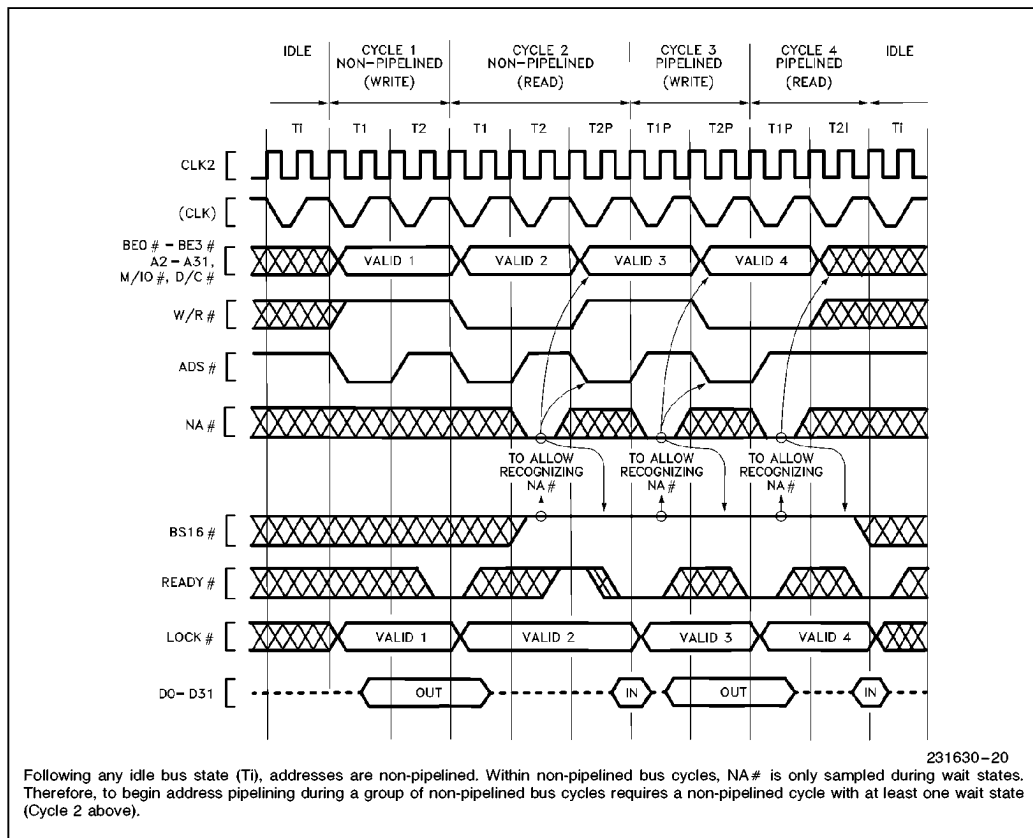
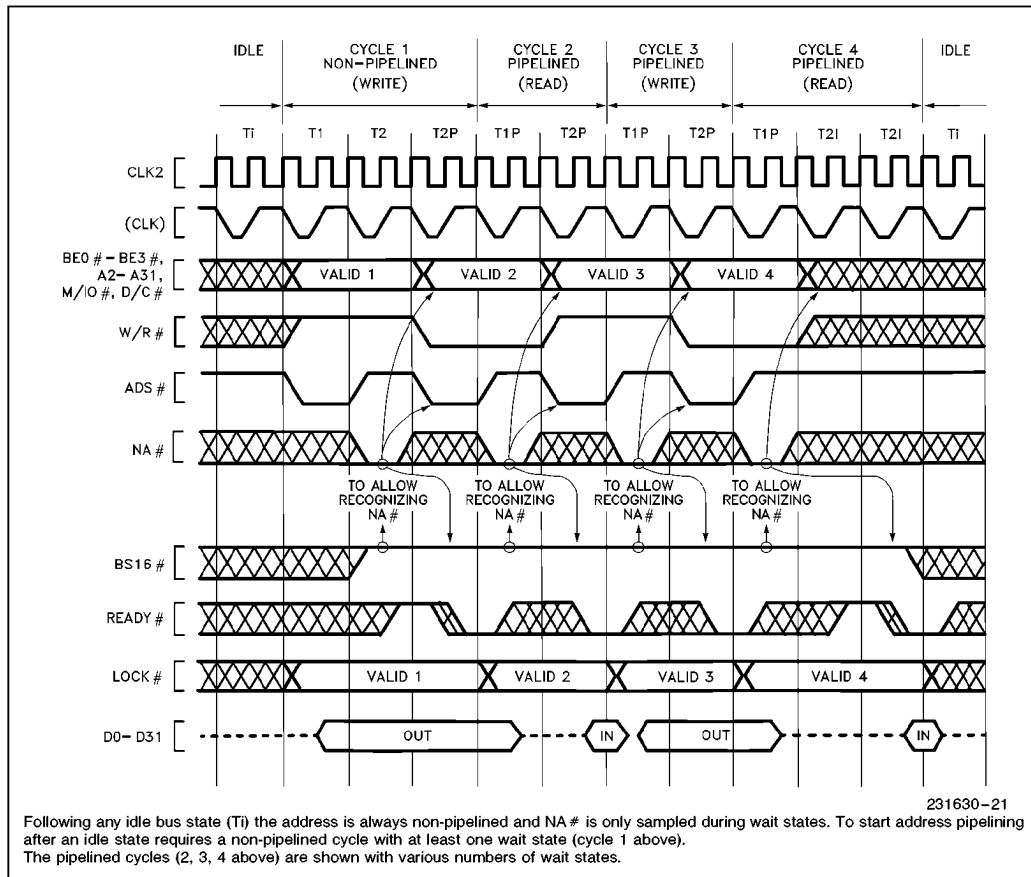
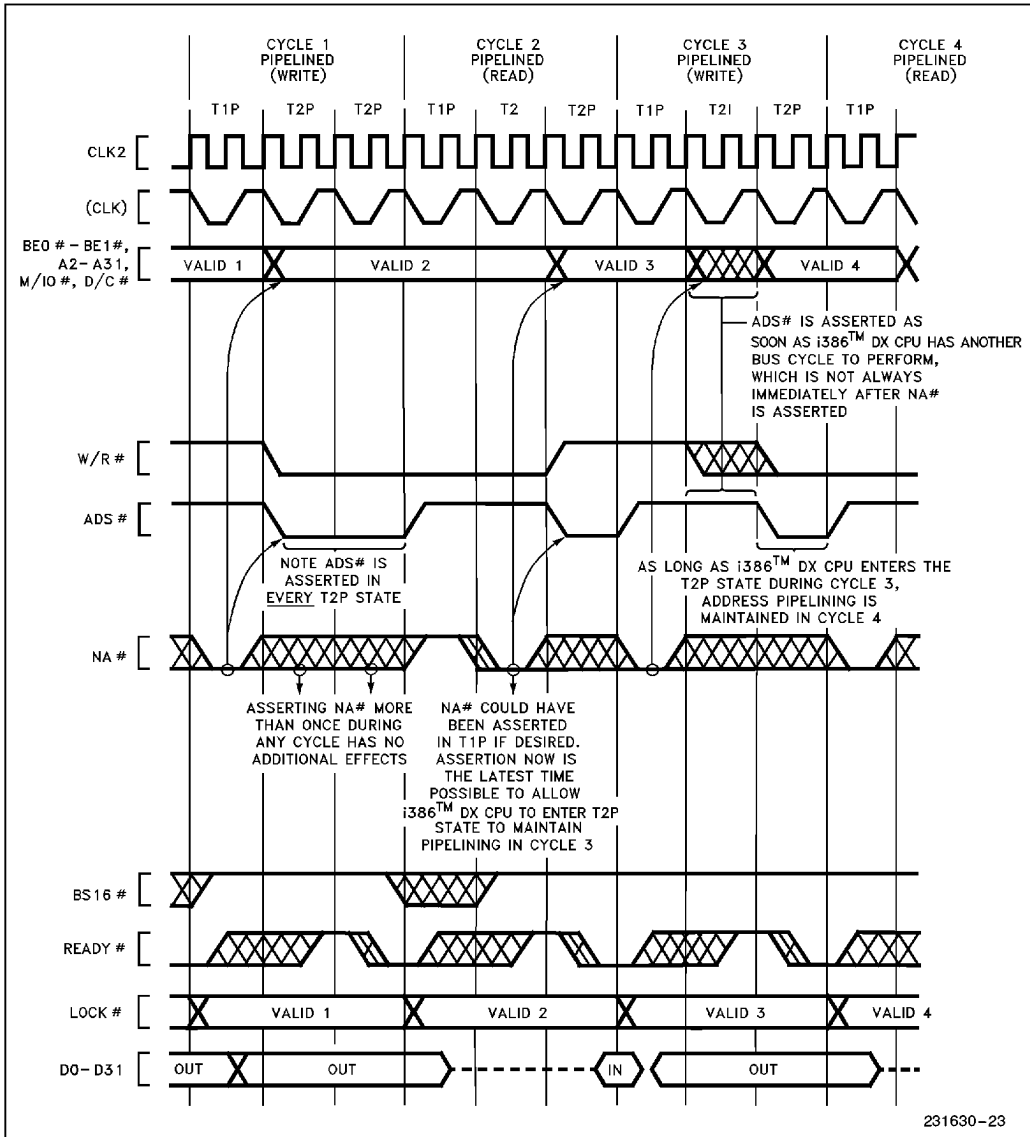

Figure 5-16. Transitioning to Pipelined Address During Burst of Bus Cycles
Figure 5-17. Fastest Transition to Pipelined Address Following Idle Bus State
Figure 5-19. Details of Address Pipelining During Cycles with Wait States
Once a bus cycle is in progress and the current address has been valid for at least one entire bus state, the **NA#** input is sampled at the end of every phase one until the bus cycle is acknowledged. During non-pipelined bus cycles, therefore, **NA#** is sampled at the end of phase one in every T2. An example is Cycle 2 in Figure 5-16, during which **NA#** is sampled at the end of phase one of every T2 (it was asserted once during the first T2 and has no further effect during that bus cycle).
- 1) For **NA#** to be sampled asserted, **BS16#** must be negated at that sampling window (see Figure 5-16 Cycles 2 through 4, and Figure 5-17 Cycles 1 through 4). If **NA#** and **BS16#** are both sampled asserted during the last T2 period of a bus cycle, **BS16#** asserted has priority. Therefore, if both are asserted, the current bus size is taken to be 16 bits and the next address is not pipelined.
- 2) The next address may appear as early as the bus state after NA# was sampled asserted (see Figures 5-16 or 5-17). In that case, state T2P is entered immediately. However, when there is not an internal bus request already pending, the next address will not be available immediately after NA# is asserted and T2I is entered instead of T2P (see Figure 5-19 Cycle 3). Provided the current bus cycle isn't yet acknowledged by READY# asserted, T2P will be entered as soon as the Intel386 DX does drive the next address. External hardware should therefore observe the ADS# output as confirmation the next address is actually being driven on the bus.
must assume the current bus size is 32 bits. Therefore if NA# is sampled asserted within a bus cycle, BS16# must be negated thereafter in that bus cycle (see Figures 5-16, 5-17, 5-19). Consequently, do not assert NA# during bus cycles which must have BS16# driven asserted. See 5.4.3.6 Dynamic Bus Sizing with Pipelined Address.
- 4) Any address which is validated by a pulse on the Intel386 DX ADS# output will remain stable on the address pins for at least two processor clock periods. The Intel386 DX cannot produce a new address more frequently than every two processor clock periods (see Figures 5-16, 5-17, 5-19).
- 5) Only the address and bus cycle definition of the very next bus cycle is available. The pipelining capability cannot look further than one bus cycle ahead (see Figure 5-19 Cycle 1).
The transition to pipelined address is shown functionally by Figure 5-17 Cycle 1. Note that Cycle 1 is used to transition into pipelined address timing for the subsequent Cycles 2, 3 and 4, which are pipelined. The NA# input is asserted at the appropriate time to select address pipelining for Cycles 2, 3 and 4.
Once a bus cycle is in progress and the current address has become valid, the NA# input is sampled at the end of every phase one, beginning with the next bus state, until the bus cycle is acknowledged. During Figure 5-17 Cycle 1 therefore, sampling begins in T2. Once NA# is sampled asserted during the current cycle, the Intel386 DX is free to drive a new address and bus cycle definition on the bus as early as the next bus state. In Figure 5-16 Cycle 1 for example, the next address is driven during state T2P. Thus Cycle 1 makes the transition to pipelined address timing, since it begins with T1 but ends with T2P. Because the address for Cycle 2 is available before Cycle 2 begins, Cycle 2 is called a pipelined bus cycle, and it begins with T1P. Cycle 2 begins as soon as READY# asserted terminates Cycle 1.
Example transition bus cycles are Figure 5-17 Cycle 1 and Figure 5-16 Cycle 2. Figure 5-17 shows transition during the very first cycle after an idle bus state, which is the fastest possible transition into address pipelining. Figure 5-16 Cycle 2 shows a transition cycle occurring during a burst of bus cycles. In any case, a transition cycle is the same whenever it occurs: it consists at least of T1, T2 (you assert NA# at that time), and T2P (provided the Intel386 DX has an internal bus request already pending, which it almost always has). T2P states are repeated if wait states are added to the cycle.
Note three states (T1, T2 and T2P) are only required in a bus cycle performing a transition from non-pipelined address into pipelined address timing, for example Figure 5-17 Cycle 1. Figure 5-17 Cycles 2, 3 and 4 show that address pipelining can be maintained with two-state bus cycles consisting only of T1P and T2P.
Once a pipelined bus cycle is in progress, pipelined timing is maintained for the next cycle by asserting NA# and detecting that the Intel386 DX enters T2P during the current bus cycle. The current bus cycle must end in state T2P for pipelining to be maintained in the next cycle. T2P is identified by the assertion of ADS#. Figures 5-16 and 5-17 however, each show pipelining ending after Cycle 4 because Cycle 4 ends in T2I. This indicates the Intel386 DX didn't have an internal bus request prior to the acknowledgement of Cycle 4. If a cycle ends with a T2 or T2I, the next cycle will not be pipelined.